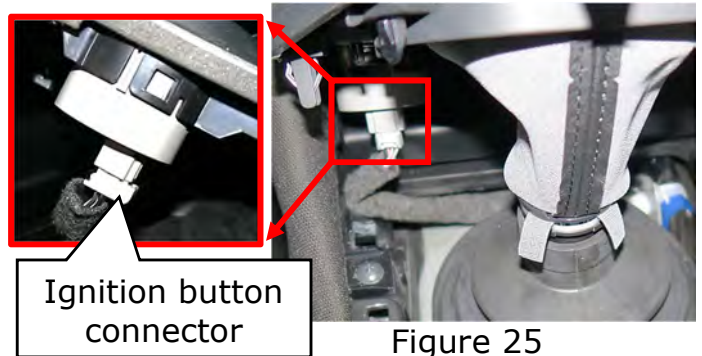

Figure 25
27. Lift the shifter finisher upward and disconnect the ignition button and the sport mode switch (if equipped). (Figure 25)